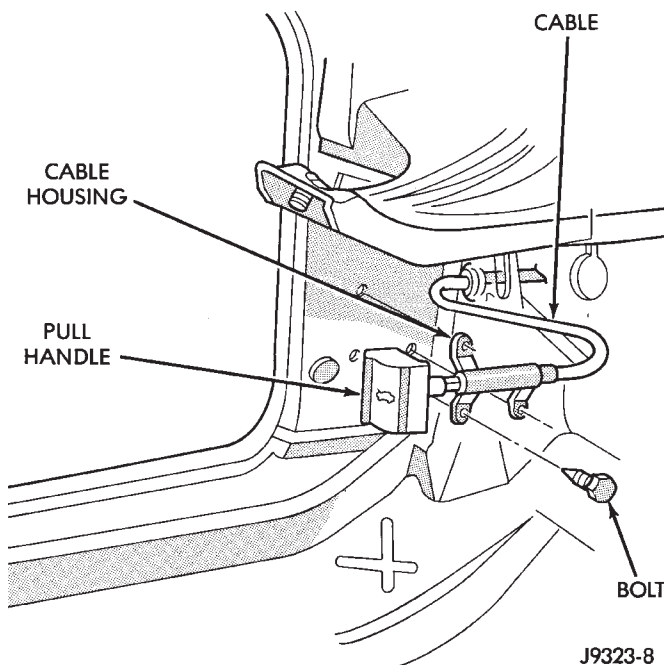

Fig. 5 Hood Release Cable
- (1) Disconnect cable from hood latch.
- (2) Disconnect cable from retaining clips.
- (3) Remove left cowl side (kick) trim panel.
- (4) Remove cable bracket attaching screws from cowl side panel (Fig. 5).
- (5) Pull cable through dash panel and remove it from under instrument panel.